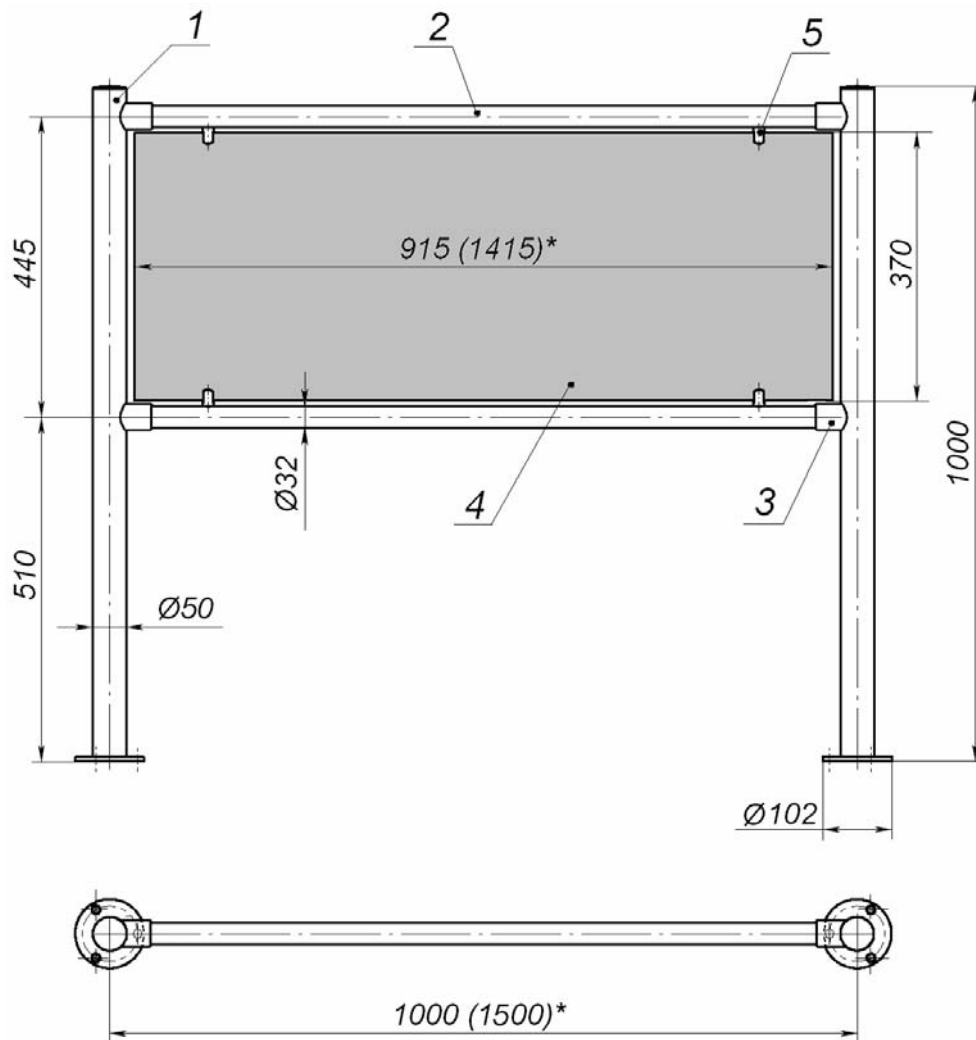

Fig. 1 Stationary railing section with filler panel:
- **Stationary railing section** with filler panel (see Fig. 1) or without filler panel (see Fig. 2 and Fig. 3), designed to form passageways. The filler panel is made of tinted glass or polycarbonate sheet.
Types of standard railing sections and their dimensions are shown at Figures 1 – 7.
Types of railing sections and their dimensions are shown at Figures 1 – 7.